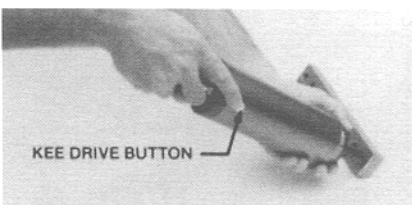

Figure 3
6. Drive KEES to $\frac{.030}{.010}$ depth by pushing KEE Drive Button (figure 3).